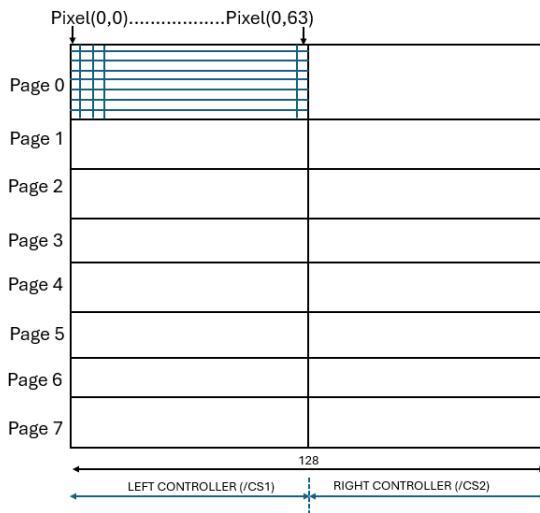

Figure 14: Graphical LCD screen display structure
The GDM12864HLCM LCD has a 128x64 resolution. The pixels are arranged in 128 columns (0 to 127) and 64 rows (0 to 63). The display configuration of the gLCD has been shown in Figure 14 . A memory block stores the value for each pixel on the screen. A 1 written to a pixel location darkens the screen and a 0 clears it. The left and right controller has control over 64 pixels (0 to 63 on each side). Vertically the screen is divided into 8 pages (Page 0 to Page 7) and each page consists of 8 pixels (9).